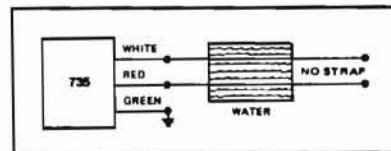

Figure 4-11. Taking a 735 reading.
- Measure the tip or ring length of the cable again, using the 735 fault locator. Set the TEST switch to LENGTH .083 (see Figure 4-11).